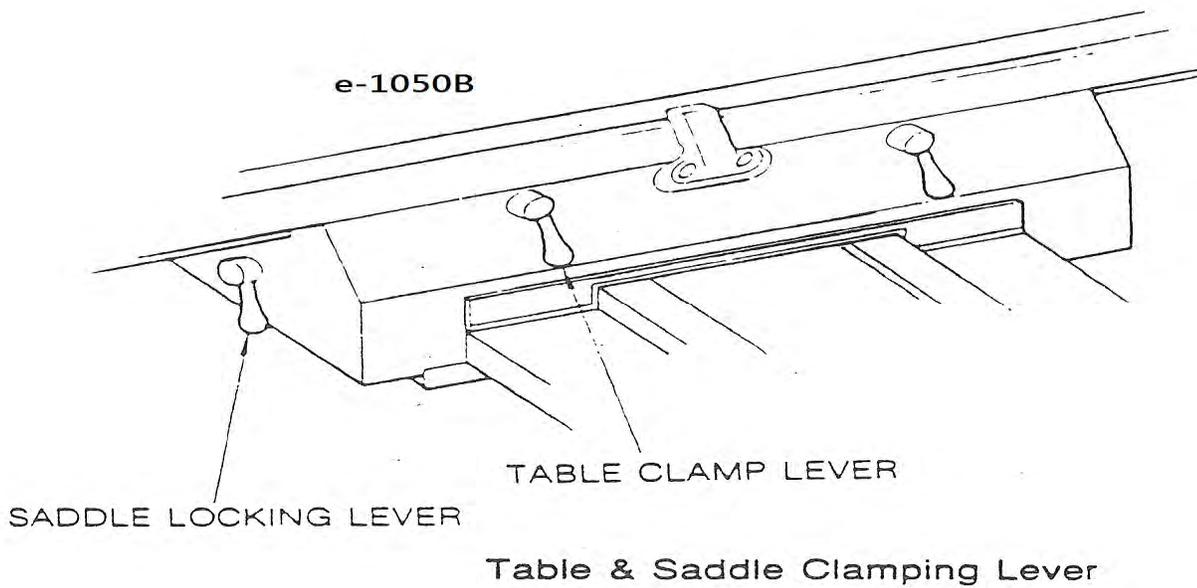

Figure 5
- a. X axis ball screw is fixed by tighten the table clamp lever to the saddle. (Fig 5)
- b. Y axis ball screw is fixed by tighten the saddle locking lever to the saddle. (Fig 5)